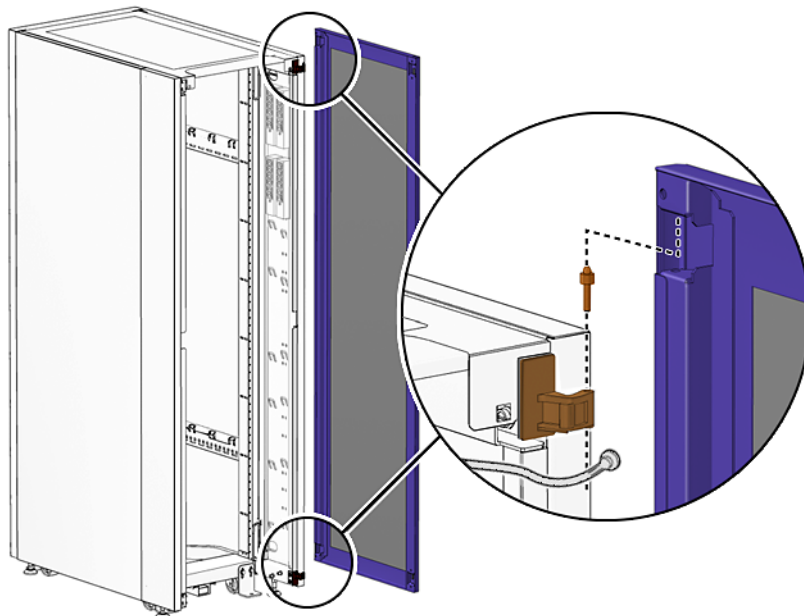

FIGURE 2-2 Removing the Purple Cabinet Door
| FIGURE 2-2 | Removing the Purple Cabinet Door | 7 |
2. Using a 10 mm wrench, disconnect the ground cable from the door (FIGURE 2-2).